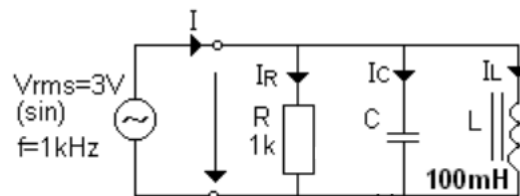

Figure 2
5. Connect the circuit as shown in Fig. 2,